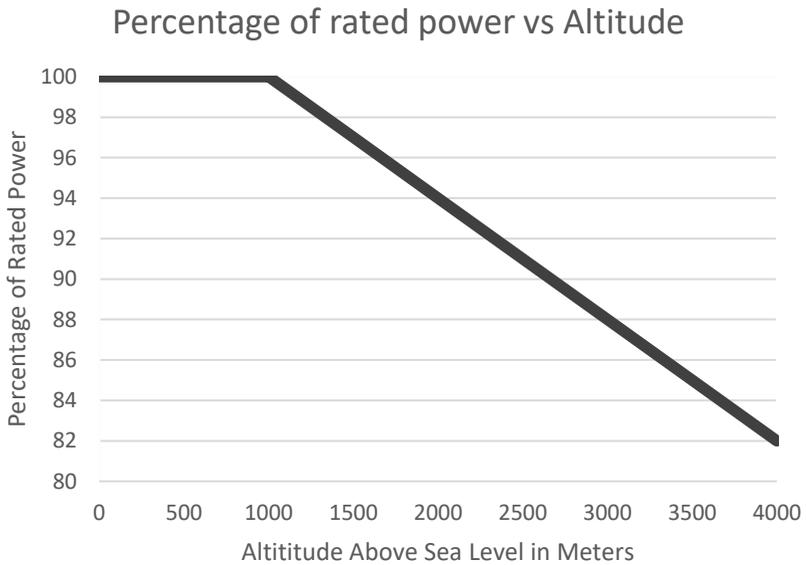

Figure 1: De-rating the Oasis inverter output power at high altitude
**Note:** At high altitudes natural thermal convection (natural thermal cooling) of the all electrical equipment is degraded. This is due a lower air density available to remove heat from the heatsink. In accordance with the standards, the Oasis is rated for altitudes up to 1000m above sea level. If it is going to be installed in an area where the altitude is greater than 1000m above sea level, refer to the power derating graph (Figure 1) to establish the maximum continuous load.